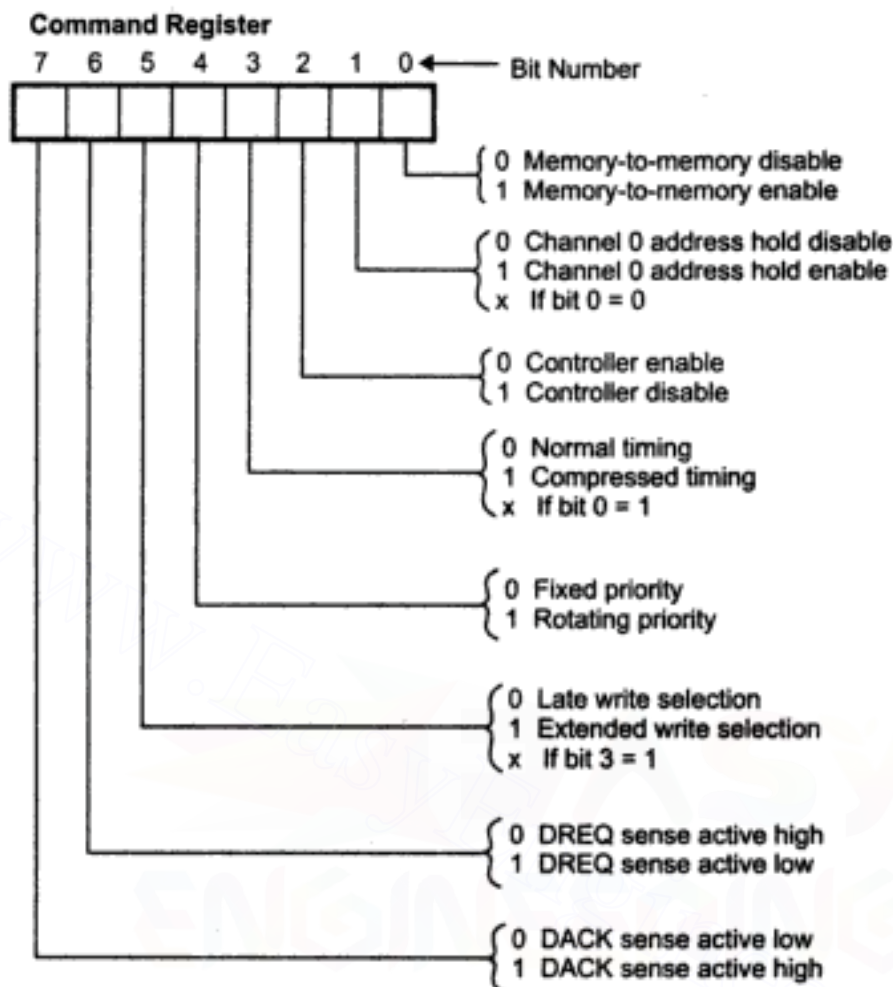

Fig. 6.18 Command register
**5. Command Register :** Fig. 6.18 shows the bit pattern of the command register. It is 8-bit register which controls the operation of 8237A.